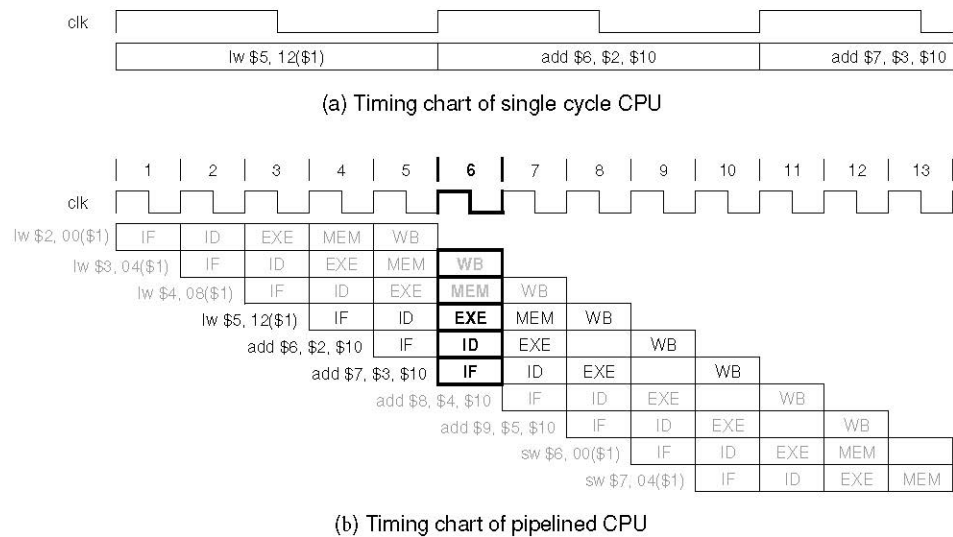
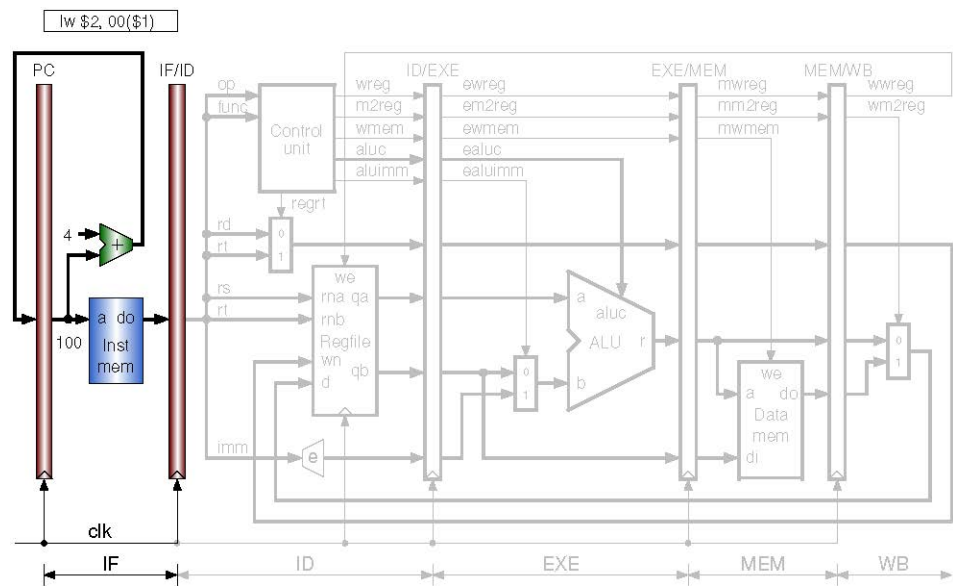
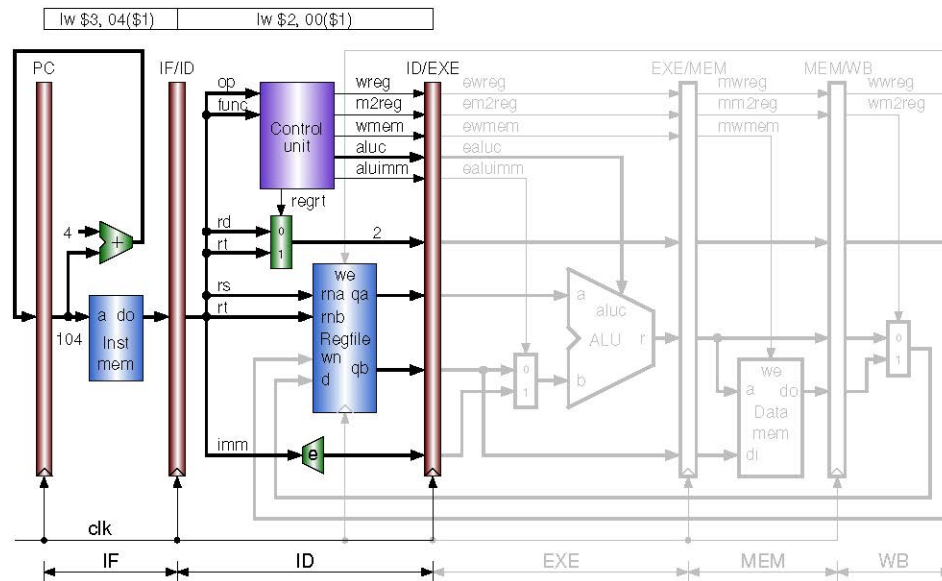

Figure 1 Timing chart comparison between two types of CPUs
Figure 2 Pipeline instruction fetch (IF) stage
Figure 3 Pipeline instruction decode (ID) stage
The circuit in the IF stage are shown in Figure 2. Also, looking at the first clock cycle in Figure 1(b), the first lw instruction is being fetched. In the IF stage, there is an instruction memory module and an adder between two pipeline registers. The left most pipeline register is the PC; it holds 100. In the end of the first cycle (at the rising edge of clk), the instruction fetched from instruction memory is written into the IF/ID register. Meanwhile, the output of the adder ( $PC + 4$ , the next PC) is written into PC.
Referring to Figure 3, in the second cycle, the first instruction entered the ID stage. There are two jobs in the second cycle: to decode the first instruction in the ID stage, and to fetch the second instruction in the IF stage. The two instructions are shown on the top of the figures: the first instruction is in the ID stage, and the second instruction is in the IF stage. The first instruction in the ID stage comes from the IF/ID register. Two operands are read from the register file (Regfile in the figure) based on rs and rt, although the lw instruction does not use the operand in the register rt. The immediate (imm) is sign-extended into 32 bits. The regrt signal is used in the ID stage that selects the destination register number; all others must be written into the ID/EXE register for later use. At the end of the second cycle, all the data and control signals, except for regrt, in the ID stage are written into the ID/EXE register. At the same time, the PC and the IF/ID register are also updated.
7. Write a Verilog code that implement the following instructions using the design shown in Figure 2 and Figure 3. Write a Verilog test bench to verify your code: (You have to show all the signals written into the IF/ID register and the ID/EXE register in your simulation outputs)